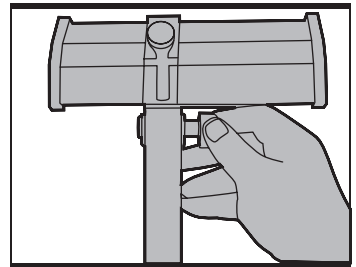

Fig 9
1) Familiarise yourself with the blade guard locating pivot pin (a), and the blade guard limiting screw pole (b) situated on the side of the planer out-feed table (13).
3) Slide the guard arm assembly (14) over the locating pivot pin.
5) Fitting the cutter guard to the guard assembly arm (14):
- Set out the parts as shown in Fig 9.